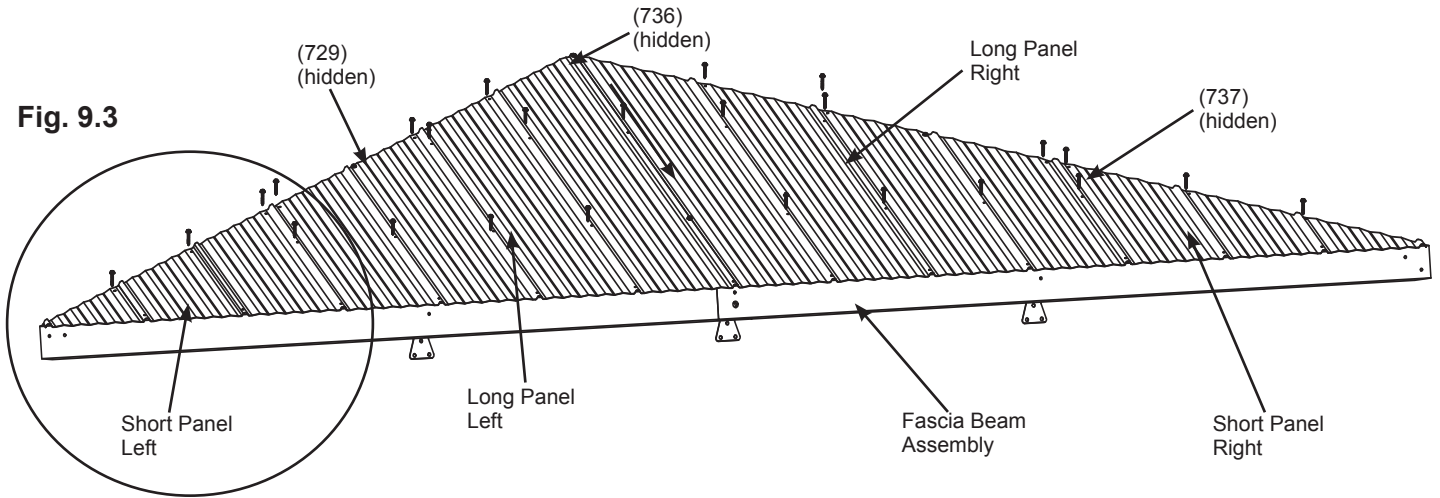

Fig. 9.3
E: Place one Short Panel Left on Roof Rafter Assembly so it overlaps the Long Panel Left and it is flush to the sides of (729) Corner LT and a slight overhang at the bottom of the Fascia Beam Assembly. There should be no overhanging at the corners. (fig. 9.3 and 9.4)
F: Place one Short Panel Right on Roof Rafter Assembly so it overlaps the Long Panel Right and it is flush to the side of (737) Corner RT and a slight overhang at the bottom of the Fascia Beam Assembly. There should be no overhanging at the corners. (fig. 9.3 and 9.4)
G: Attach all panels to Roof Rafter Assembly with 25 #8 x 1" Roofing Screws in locations shown in fig. 9.3. Do not place any screws along the bottom row. Be sure not to overtighten screws.